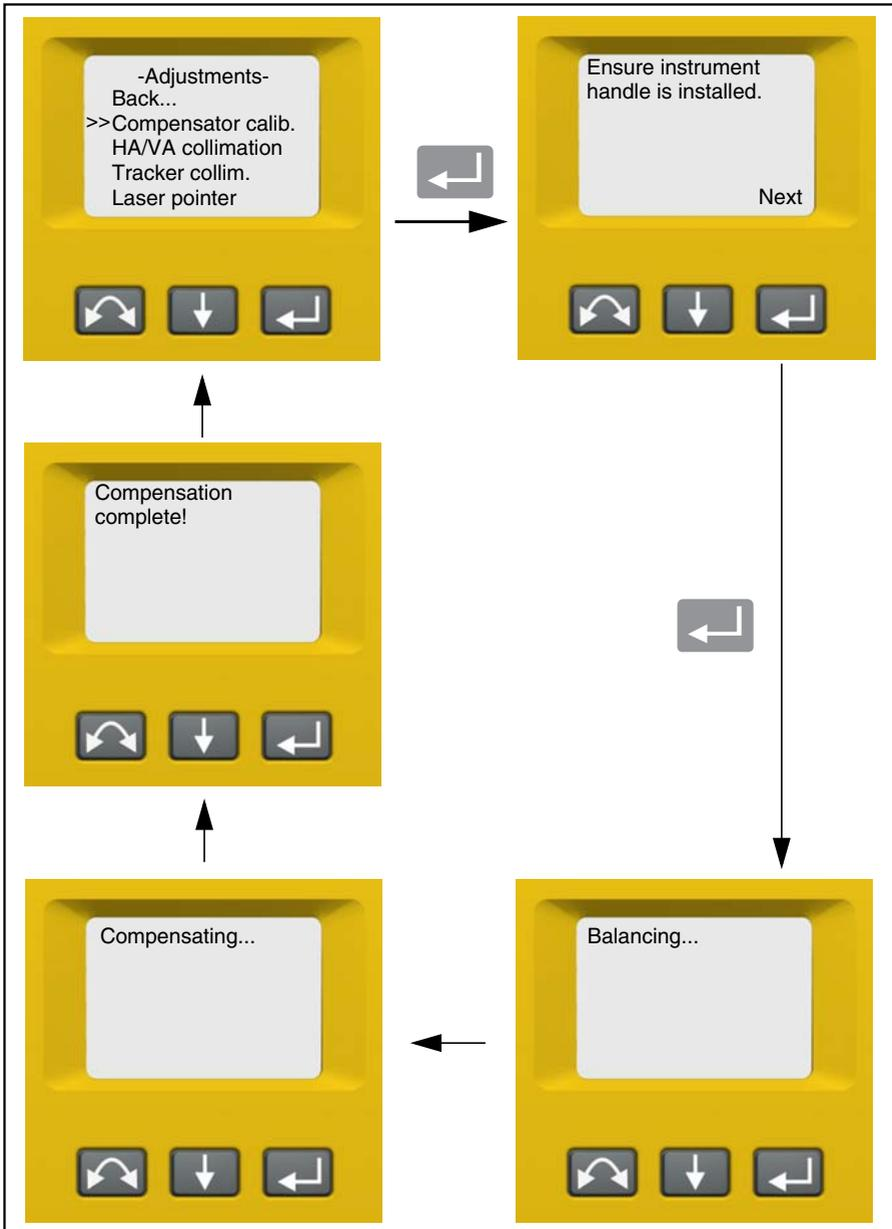

Figure 4.18 Compensator calibration routine
3. Follow the instructions in the display. Figure 4.18.